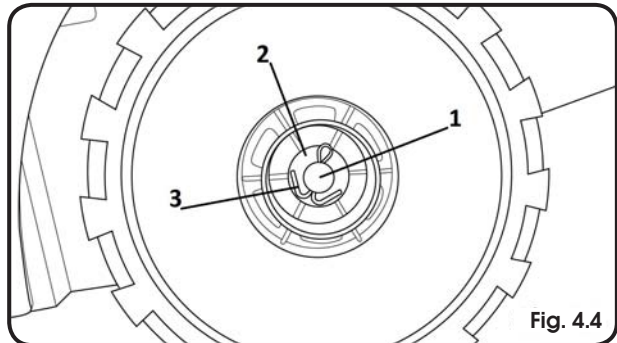

Fig. 4.4
- ✿ Put the lawnmower wheel on to the axle. Figure 4.4, point 1. Put on the washer and secure in place using the cotter pin. Figure 4.4, point 2 and 3.